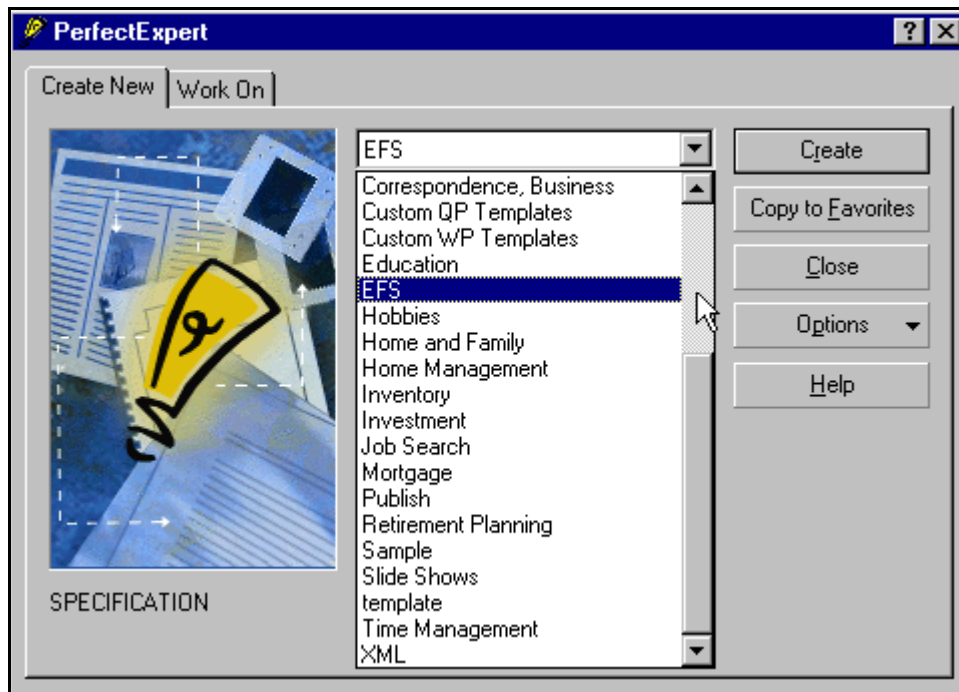
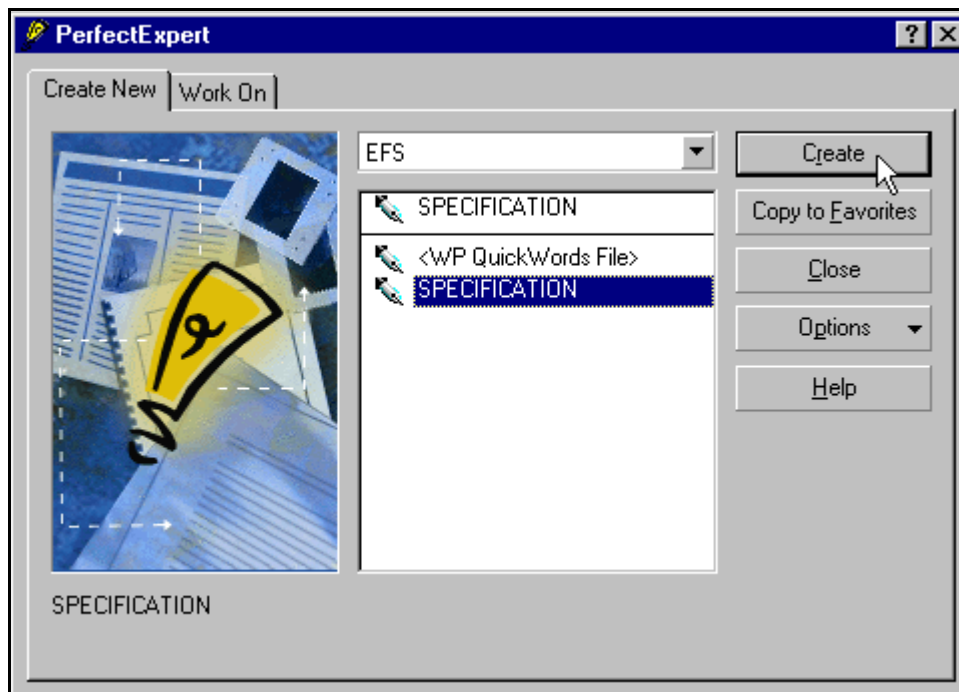

Figure 2-5 Select EFS From The Drop Down Menu
Figure 2-6 Select SPECIFICATION and Click the Create Button
20. Click the down arrow in the first field, if **E**FS appears in the drop down menu then you are complete (see Figure 2-5). Click the **C**lose button to exit or click on **S**pecification and then **C**reate to create a new document (see Figure 2-6).